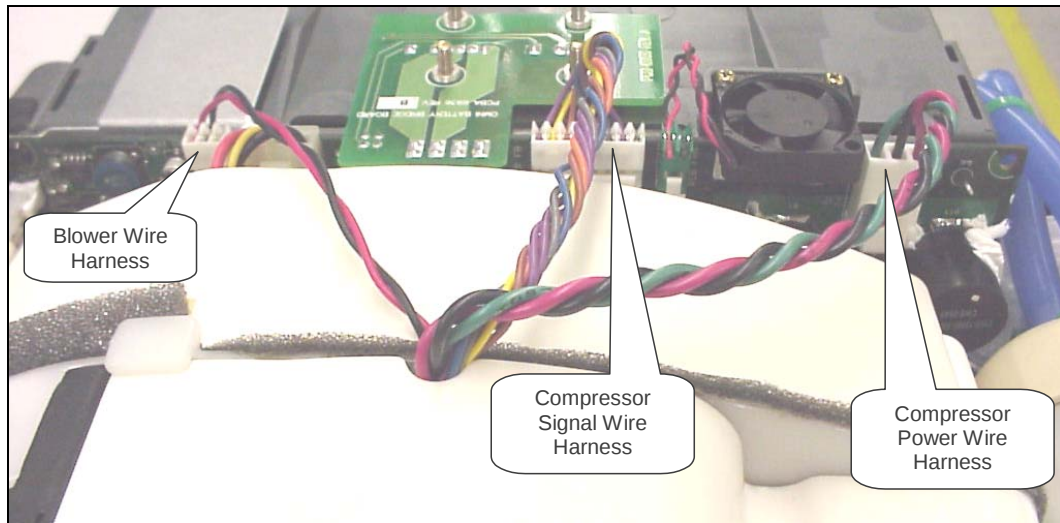

Figure 49: Compressor Box electrical connections.
3. Disconnect the 3 wire harnesses shown in Figure 49.
13. Plug the 3 harnesses into the Power Manager PCB as shown on Figure 49 above.